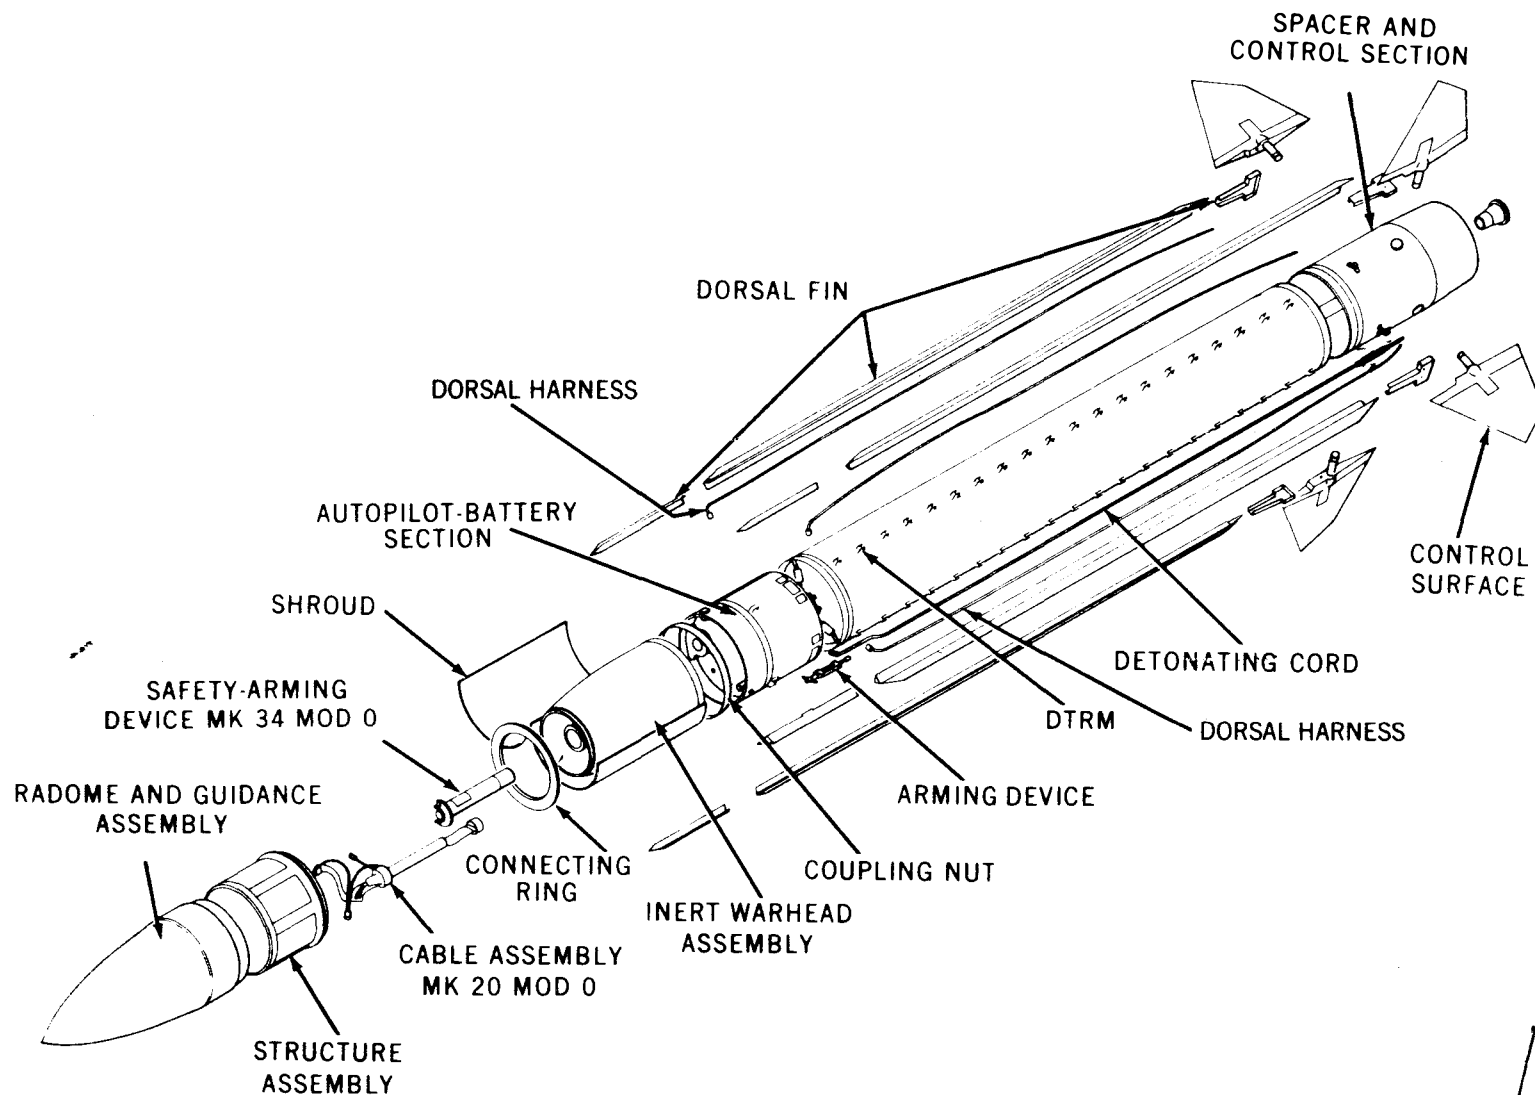

Figure 5-62. AGM-78A Missile Sections
- a. Four-section body (reference figure 5-62).
- c. Detonating Cord: Under dorsal fin number 2, initiates explosive in marker package (reference figure 5-62).
- d. Visual Marker: Located in lower half of spacer. Contains red or white phosphorous (reference figure 5-62)